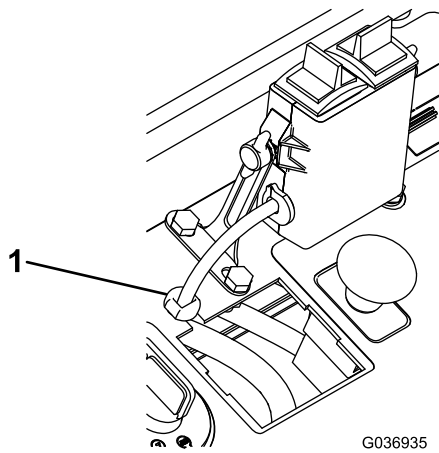

Figure 4
5. Attach the strain relief plug to the controller cable approximately 7 cm (3 inches) from the controller (Figure 4).
6. Route the controller cord through the opening for the hour meter and slide the strain relief plug into the opening made in step 2 (Figure 4).